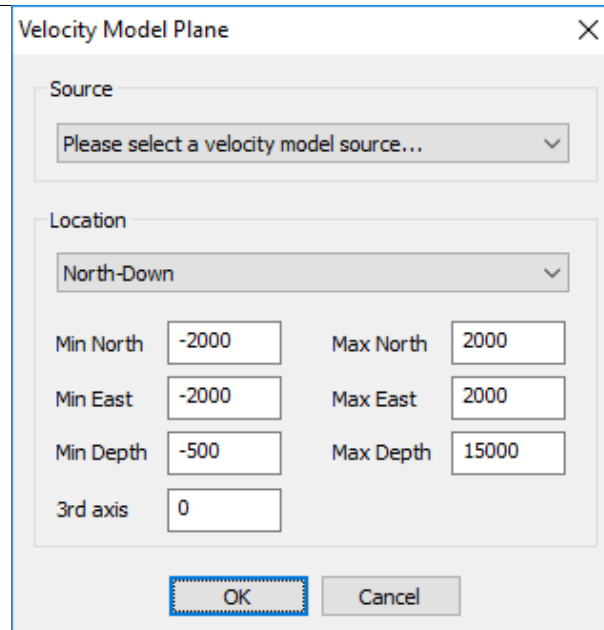

Figure 9-5: Changing the extent and location of the velocity model plane.
- Velocity Model Plane - add a 2D plane to show the velocity model. You can decide the position along the 3rd-axis using the options in Figure 9-5. Once it has been imported you can right-click on the plane to set colour and transparency from the properties page.